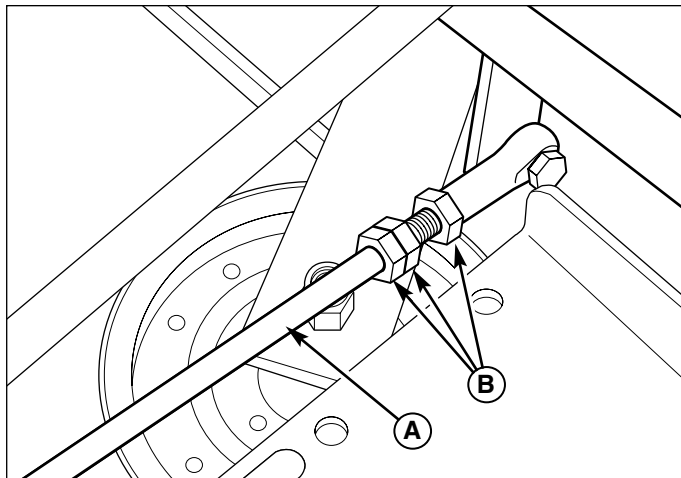

Figure 28. Neutral Adjustment
2. There are three (3) nuts on the linkage rod. The first two are to be used together to turn the rod and the third (towards the front of the machine) is used to lock the rod in place. Loosen the jam nut that locks against the clevis (B, Figure 28) and turn the linkage rod (A, Figure 28) to adjust. If the machine creeps forward, turn the rod **CLOCKWISE** (while standing at the rear of the machine, facing forward), if the machine creeps backward, turn the rod **COUNTER-CLOCKWISE**.
3. Lock the jam nut (B, Figure 28) against the clevis when neutral is achieved.